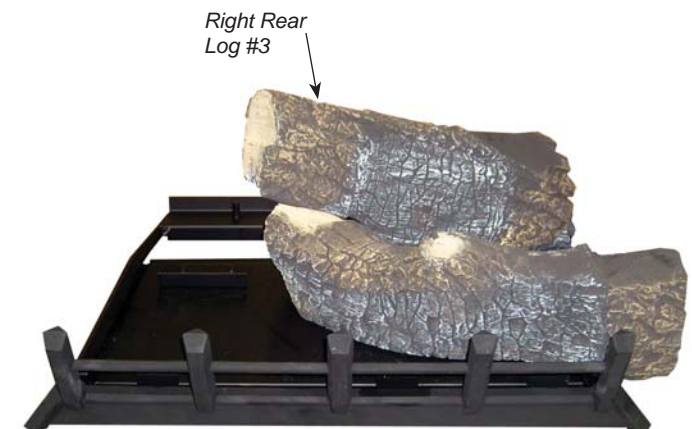

Figure 31
3. Place right rear log (#3) on pin located on rear support bracket and rest left side of log on front right log. *Figure 31*. After placing right rear log, ensure log is fully upright and does not tilt forward. Slide #1 log ember chunk back to contact right rear log.